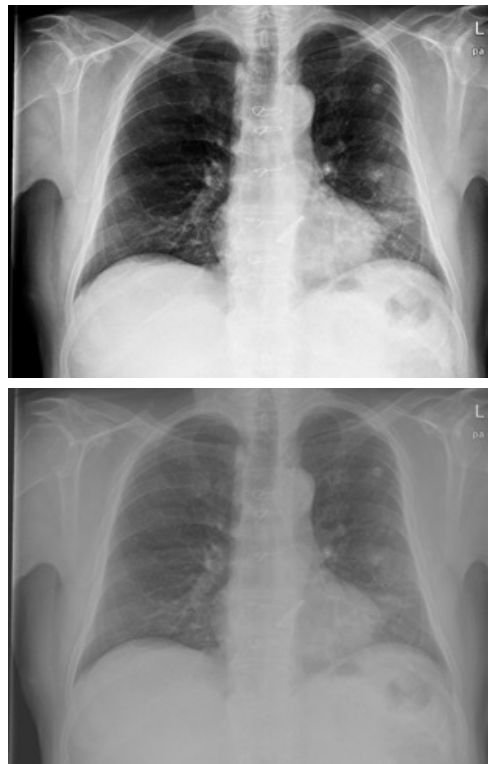

FIGURE 28
- / The contrast of a **radiological image quantifies** the difference of signal among tissues of different densities (Fig. 28).